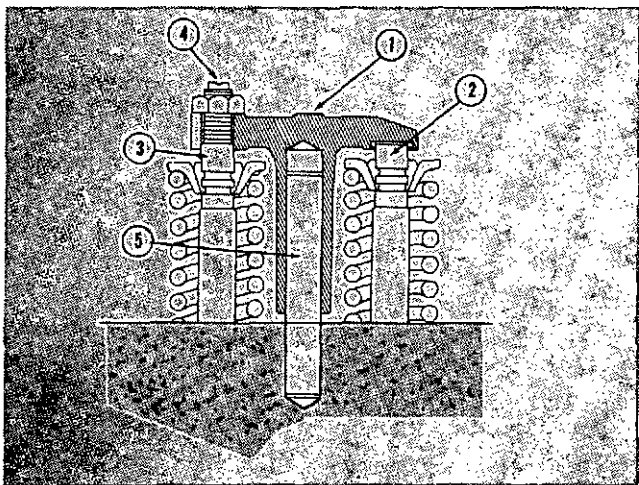

Fig. 2-52 (N21461) Adjusting valve crossheads
1. Loosen valve crosshead adjusting screw locknut and back off screw (4, Fig. 2-52) one turn.